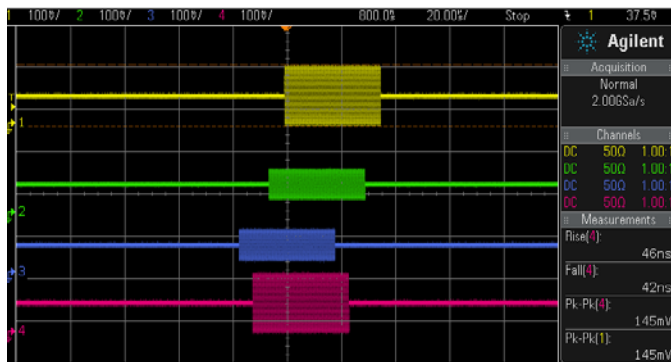

Figure 6 : Example 3 Result
- f. The outputs from J2, J1, J4 and J5 will be as shown in Figure 6